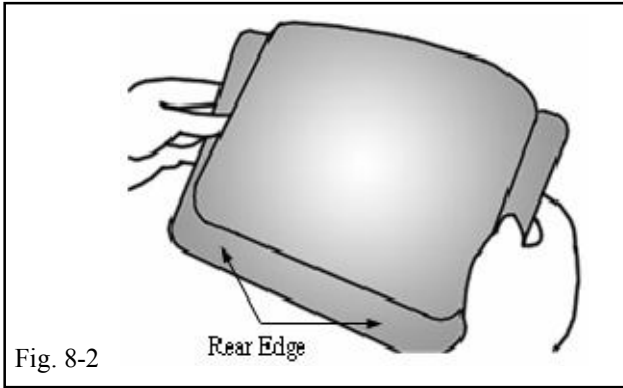

Fig. 8-2
- (e) Align the rear edge of the cover with the rear edge of the satellite receiver. (Fig. 8-2).